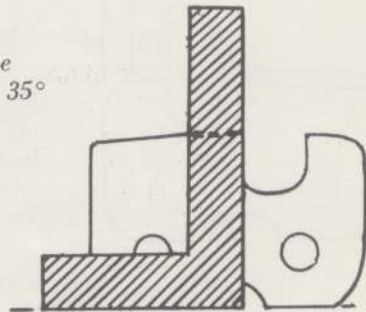

Figure 10—Chain Filing Hints
(2) KEEP SIDE OF CUTTING EDGE VERTICAL . . . MAINTAIN SAME TOP PLATE ANGLE (See figure 10)